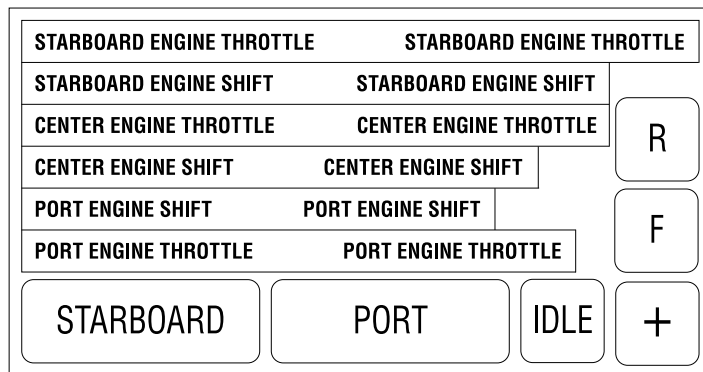
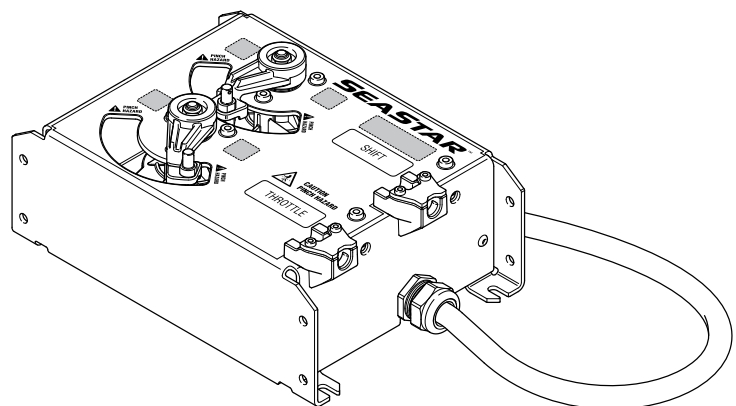

Figure 4-4. Actuator decal sheet.
Figure 4-5. Override decal locations (shaded).
10. Apply the manual override decals (figure 4-4) to the actuator chassis label in the dashed boxes provided (figure 4-5).